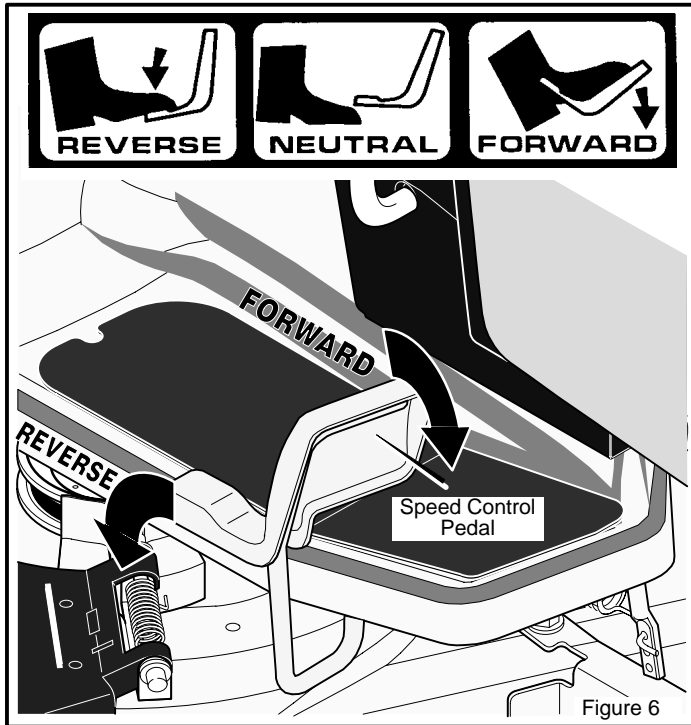

Figure 6
4. Slowly push the **speed control pedal** forward to the desired speed (Figure 6).